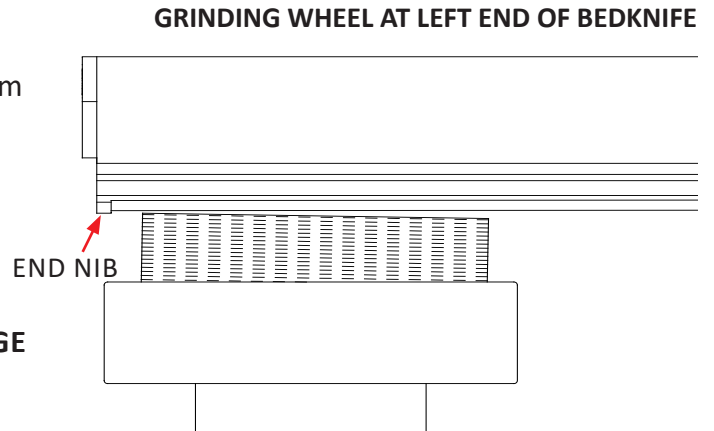

FIG. 48
1. Move the grinding head to the left end of the bedknife. Now adjust the carriage infeed handwheel until the wheel *barely* touches the bedknife inside the unworn end nib. See FIG. 48.
3. Without moving the grinding head infeed, loosen the lock tee knob and adjust the tooling bar right side adjuster until the grinding wheel *barely* touches the bedknife inside the unworn end nib. See FIG. 48. *NOTE: When adjusting the right side, the left side also moves a small amount, move the grinding head left and right sides several times to verify that you barely contact the knife at both ends.*